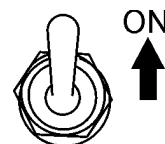

Figure 20. Operation Switch (ON)
3. Place the generator's operation switch (Figure 20) in the **ON** position.